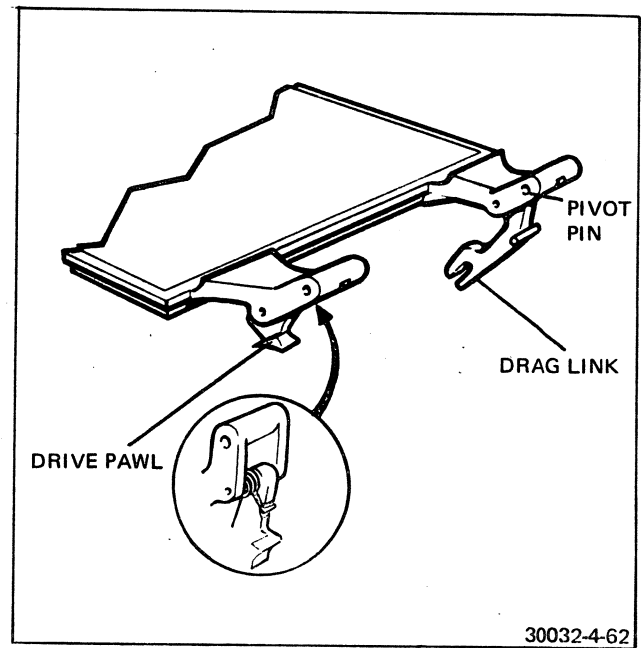

FIGURE 4-62 DRAG LINK
30. Identify the drive pawl, Figure 4-62. Use a thin flexible strip (such as a flexible steel pocket scale) and rotate the drive pawl so that it enters the cavity in the inner frame. Hold the pawl in this position.